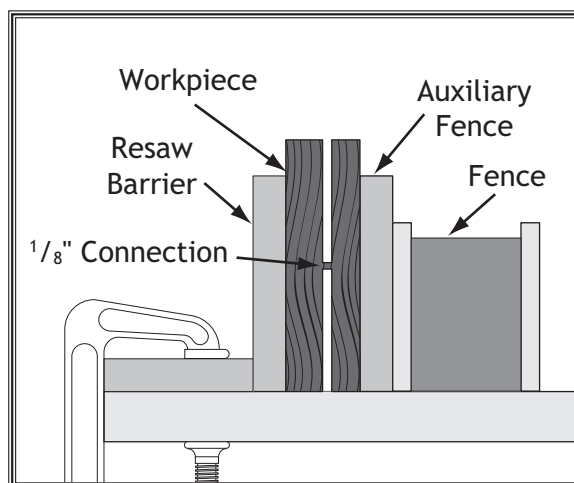

Figure 95. Completed resaw operation.
10. If necessary to complete the operation, repeat **Steps 7-9** until the blade is close to half of the height of the board to be resawn. The ideal completed resaw cut will leave an $\frac{1}{8}$ " connection when the resawing is complete, as shown in **Figure 95**. Leaving an $\frac{1}{8}$ " connection will reduce the risk of kickback.